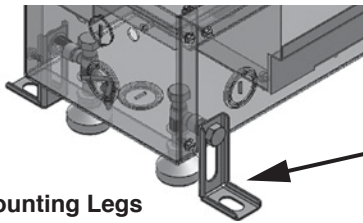

Figure 11C: Mounting Legs
- Remove slide legs and hardware from parts kit - attached mounting legs to heater box loosely. See Figure 11C.
- Adjust slide legs flush with subfloor mark and drill hole locations. See Figure 11C.